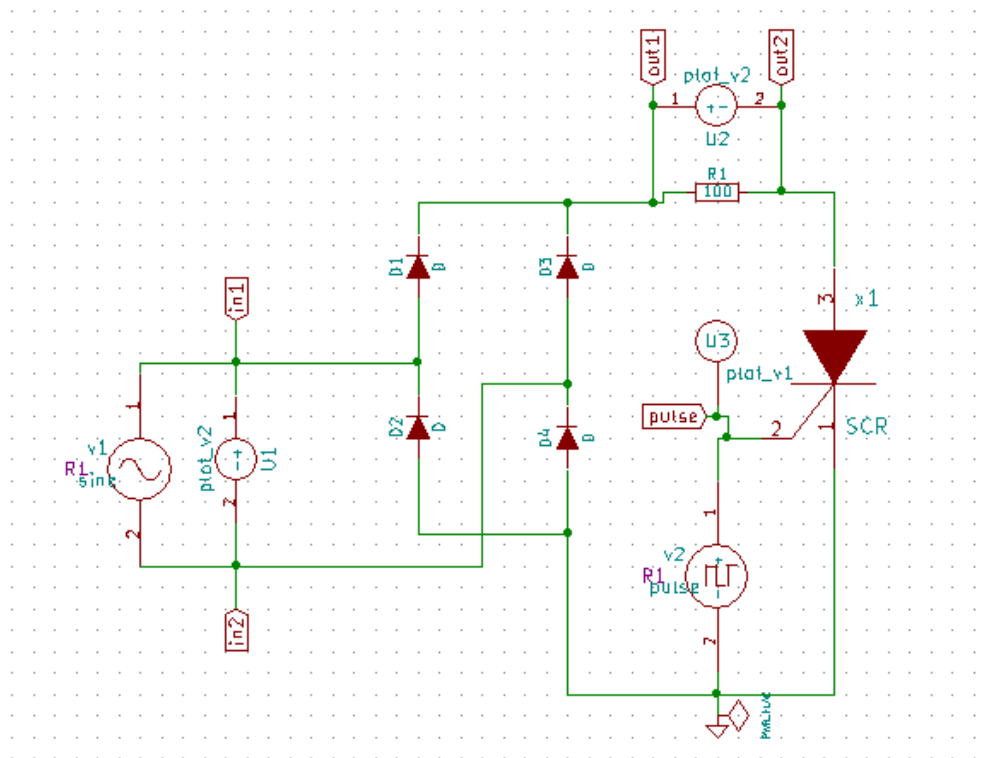

Figure 11.26: Schematic of Full Wave Rectifier using SCR
- **Creating Schematic:** To create the schematic, click the very first icon of the left toolbar as shown in the Fig. 11.2. This will open KiCad Eeschema. After the KiCad window is opened, to create a schematic we need to place the required components. Fig. 11.3 shows the icon on the right toolbar which opens the component library. After all the required components of the Full Wave Rectifier using SCR circuit are placed, wiring is done using the **Place Wire** option as shown in the Fig. 11.4. Next step is **ERC (Electric Rules Check)**. Fig. 11.5 shows the icon for **ERC**. The Fig. 11.26 shows the complete Rectifier circuit using SCR after removing the errors.